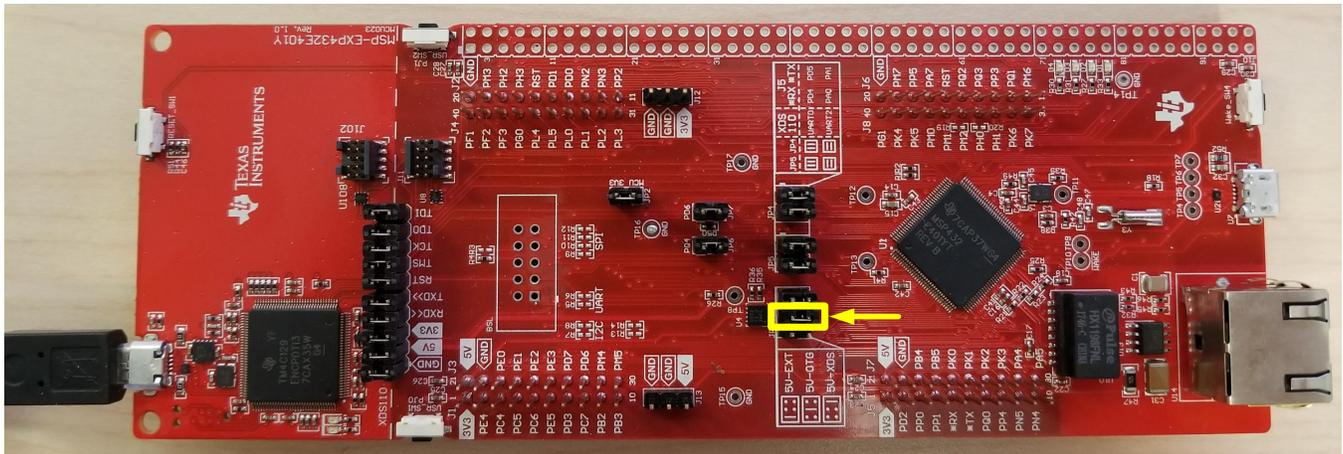

Figure 26. LaunchPad Connection for Programming
3. Install Jumper on LaunchPad (Figure 26).
1. Connect the included Micro-USB cable to the USB port of the PC and the LaunchPad as shown in Figure 26.
2. Connect a jumper between pins 3 and 4 of the JP1 as shown in Figure 26. This jumper has been provided on the TPS92520EVM-074 at location J5 (also marked with ↑LP).